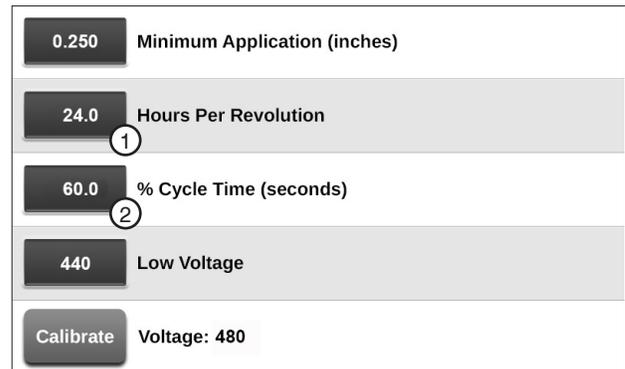

Figure 25-1 System Voltage Screen
The Hours Per Revolution is used to set the number of hours required, at a percent timer setting of 100%, for the machine to make one complete revolution. Refer to Figure 25-1.
To set the hours per revolution refer to Figure 25-1 and follow these steps:
1. Push **Menu**, **Setup**, **Constants** and **System / Voltage** to display the System / Voltage screen. Refer to Figure 25-1.
To set the Percent Timer Cycle Time refer to Figure 25-1 and follow these steps: